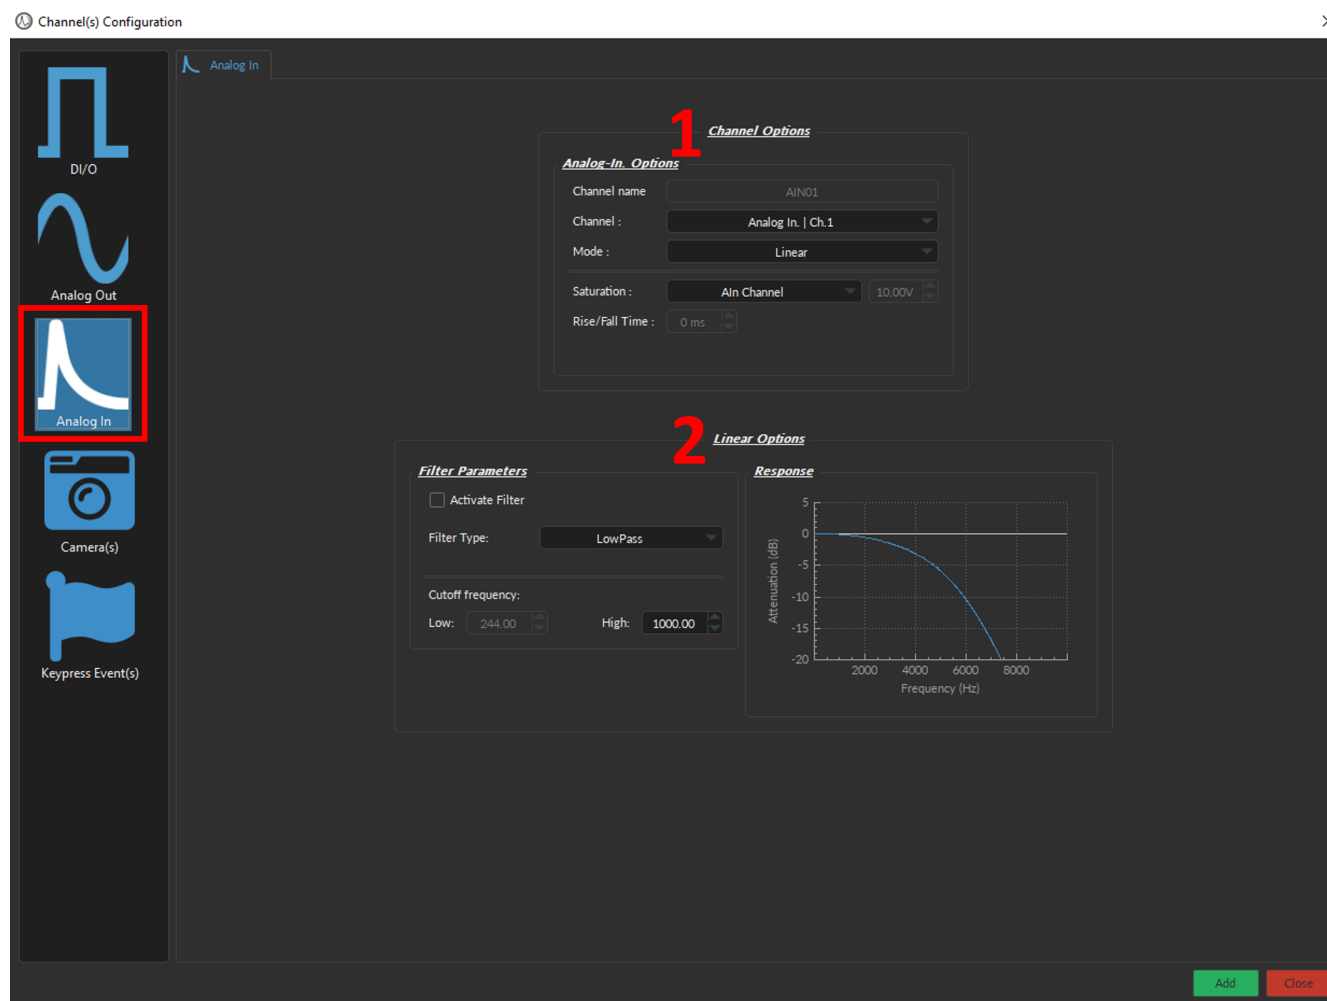

Figure 5.26: *Channel(s) configuration window, Analog Input*
The *Channel(s) Configuration* window for the **Analog Input** is divided into two sections (Fig. 5.26): (1) the **Channel Options** (Section 5.4.5.1) and (2) the **Mode-specific Options** (*Linear*, Section 5.4.5.2; *Interleaved*, Section 5.4.5.3; *Lock-In*, Section 5.4.5.4).
3. Three **Mode** are available to record the input signal, each of which have their own defined parameters in the Option box below **Channel Options** (Fig. 5.26, 3):